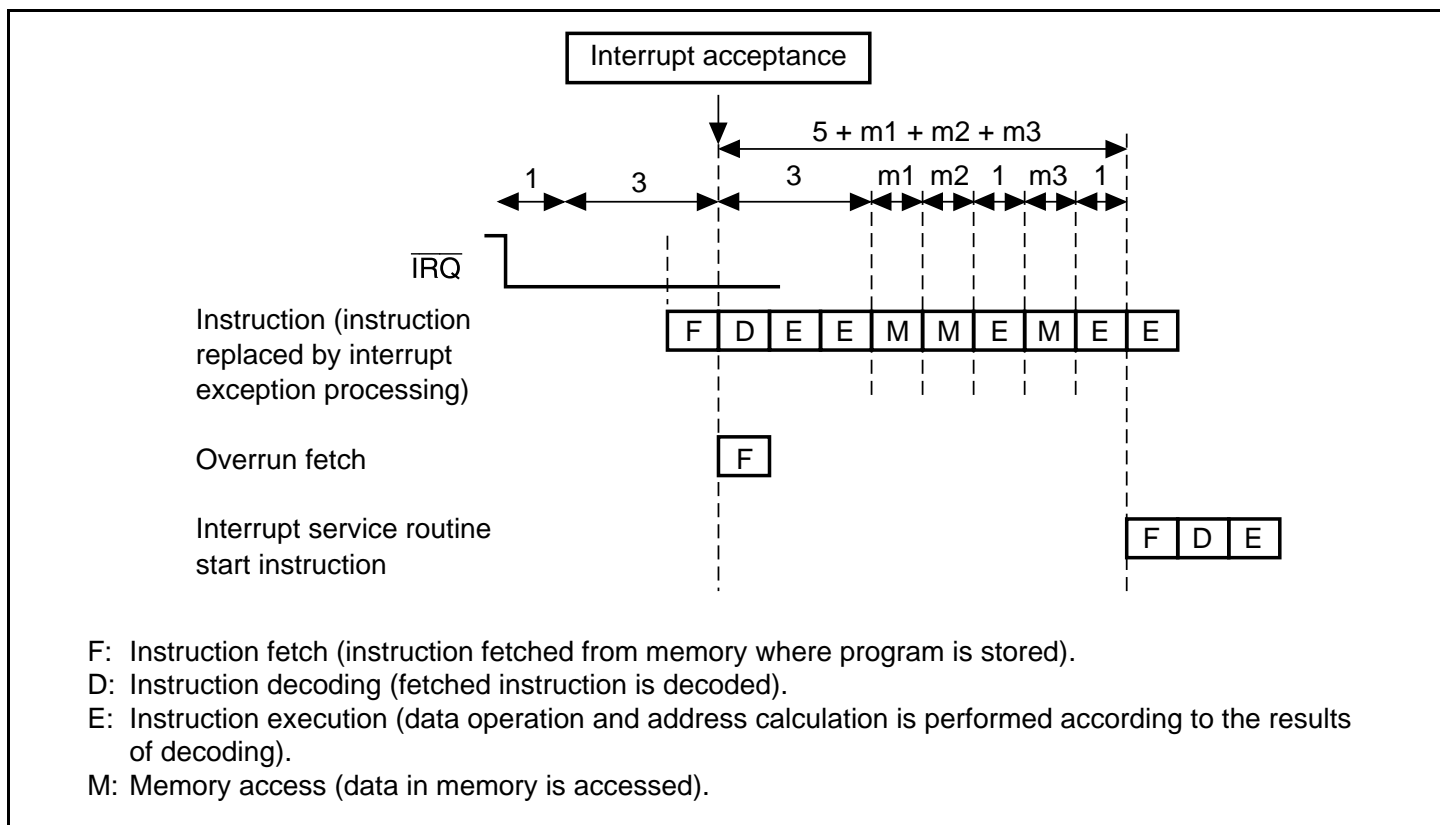

Figure 6.5 Example of the Pipeline Operation when an IRQ Interrupt Is Accepted
3. The interrupt controller compares the priority level of the selected interrupt request with the interrupt mask bits (I3 to I0) in the CPU's status register (SR). If the request priority level is equal to or less than the level set in I3 to I0, the request is ignored. If the request priority level is higher than the level in bits I3 to I0, the interrupt controller accepts the interrupt and sends an interrupt request signal to the CPU.
5. The CPU detects the interrupt request sent from the interrupt controller when CPU decodes the instruction to be executed. Instead of executing the decoded instruction, the CPU starts interrupt exception processing (figure 6.5).
7. The priority level of the accepted interrupt is copied to the interrupt mask level bits (I3 to I0) in the status register (SR).
8. When the accepted interrupt is sensed by level or is from an on-chip peripheral module, a high level is output from the $\overline{\text{IRQOUT}}$ pin. When the accepted interrupt is sensed by edge, a high level is output from the $\overline{\text{IRQOUT}}$ pin at the moment when the CPU starts interrupt exception processing instead of instruction execution as noted in (5) above. However, if the interrupt controller accepts an interrupt with a higher priority than the interrupt just to be accepting, the $\overline{\text{IRQOUT}}$ pin holds low level.
Table 6.3 lists the interrupt response time, which is the time from the occurrence of an interrupt request until the interrupt exception processing starts and fetching of the first instruction of the interrupt service routine begins. Figure 6.5 shows an example of the pipeline operation when an IRQ interrupt is accepted.